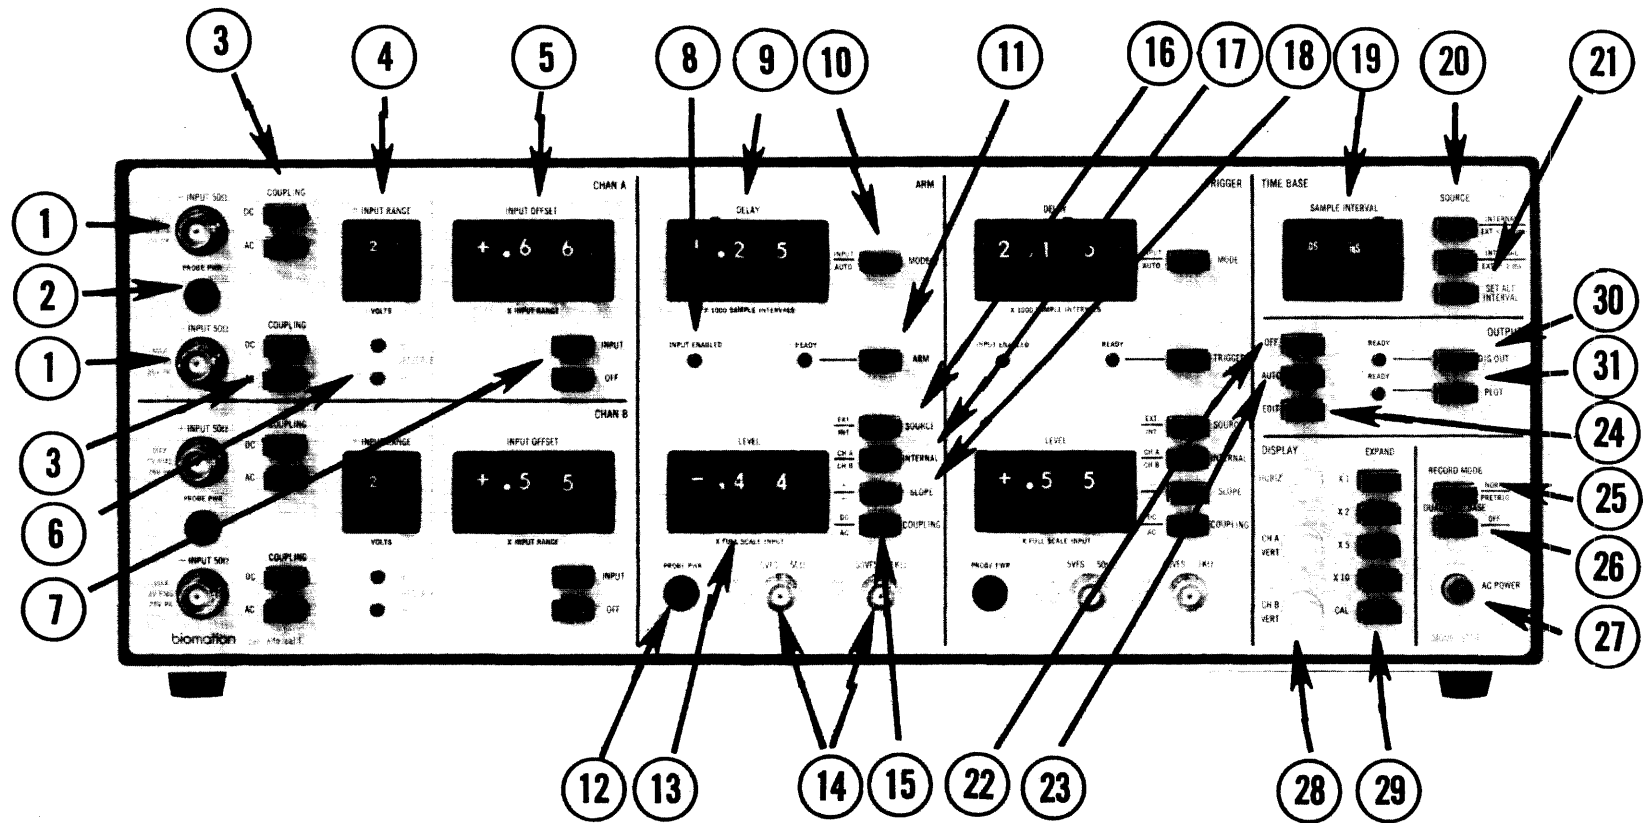

Figure 4.1 Front Panel Functions
The controls of the Model 8100 are divided into eight groups called "control clusters." The groups contain separate controls with related functions. For convenience, they are presented together with a photograph of the front panel in Figure 4.1. The eight control clusters are as follows:
A +1 V peak ramp of 1 ms duration is provided for sweeping X-Y CRT displays. The origin is adjustable between -1 V and +0.2 V. The Sweep Expand buttons (#29 in Fig. 4.1) increase the ramp amplitude proportionately (2 V for X2, 5 V for X5, etc.).
The time base selected by the front panel SAMPLE INTERVAL switch is available at TB OUT (10). This may be used to synchronize an experiment to the 8100 or as an external time base source for a second 8100. In that application it is connected to the TB IN connector (11) of the second unit. When an external time base is selected by the Time Base Source buttons (#20 in Fig. 4.1), it is supplied to the TB IN connector (11).
4.3.6 AC Line Connector, Fuse holder, and Line Voltage Selector (1).